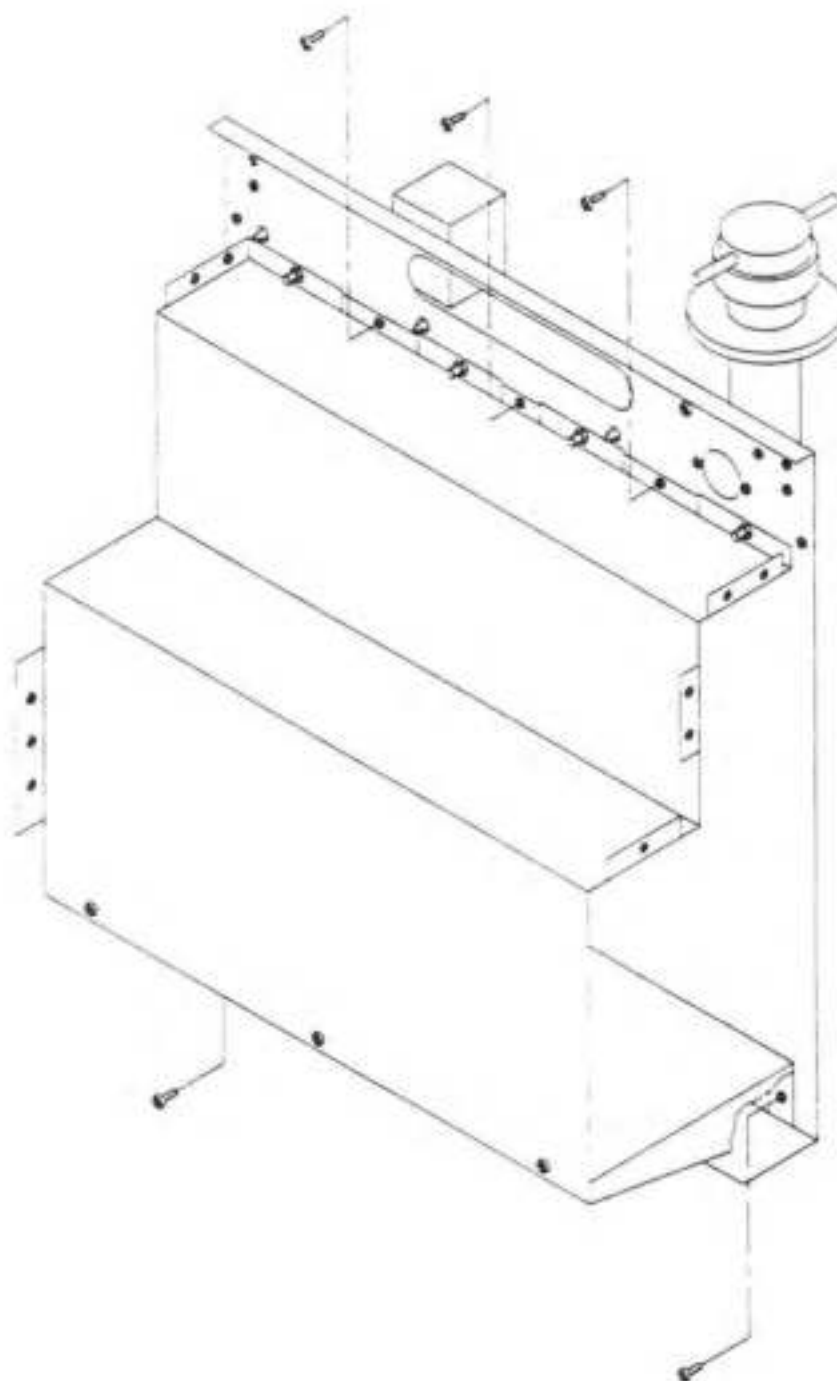

Figure 5-4. Mounting Screws for Vacuum System.
- 16 Separate the vacuum system frame from the circuit card chassis by removing five screws. See Figure 5-4.
- 2 Attach the vacuum system frame to the circuit card chassis with five screws (Figure 5-4), then attach the connectors from the vacuum system to the backplane.